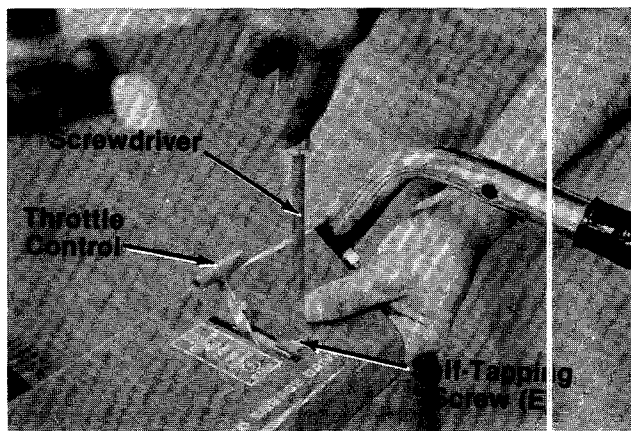

FIGURE 3.
- Place the speed nuts (F), flat side up, onto the throttle control. Place throttle control lever up through the hole in the handle panel. Secure with self-tapping screw (E) as shown in figure 3.